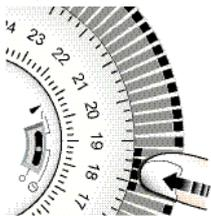
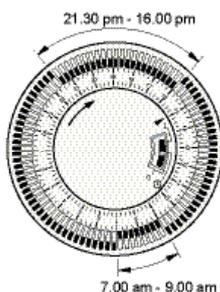
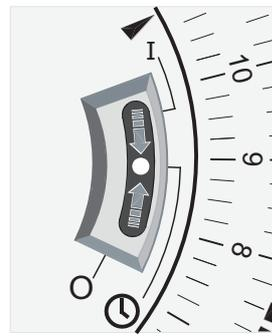

Fig. 7
Fig. 8
Fig. 9
1. Using your finger tip or the tip of a pencil, push in as many segments as necessary around the dial, according to the times you don't require heat – see Fig. 7. Each segment pushed in switches the heater OFF for that part of the hour. All other segments will be ON. For example, Fig. 8 shows the timer set to switch the heater ON between 9.00am and 4.00pm and between 9.30pm and 7.00am.
Check that the clock shows the correct time of day. Set the I -  -  slide switch to  (see Fig. 9) - the heater will switch ON and OFF according to the timer settings (see Fig. 8).